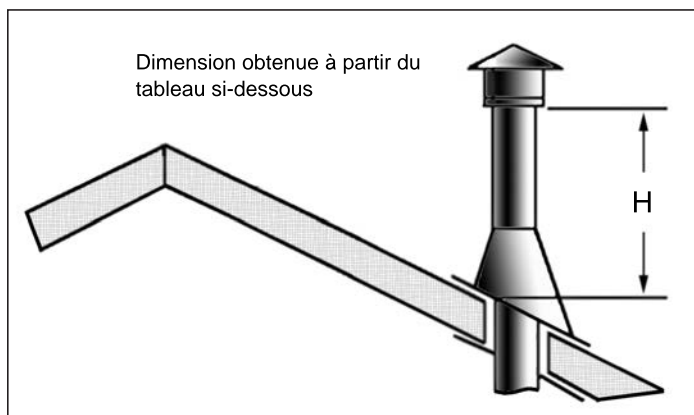

Figure 49. Height of Vertical Termination;
- STEP 8.** Continue to add pipe sections until the height of the vent cap meets the minimum code requirements. Refer to Figure 49 and Table 10. Note that for steep roof pitches, the vent height must be increased. In high wind conditions, nearby trees, adjoining roof lines, steep pitched roofs, and other similar factors can result in poor draft, or down drafting. In these cases, increasing the vent height may solve the problem.
- STEP 9.** Slip the storm collar over the pipe, and push it down to the top of the roof flashing as shown in Figure 49. Use the non-hardening sealant around the joint between the pipe and the storm collar.
Table 10: Minimum 'H' for Figure 49.